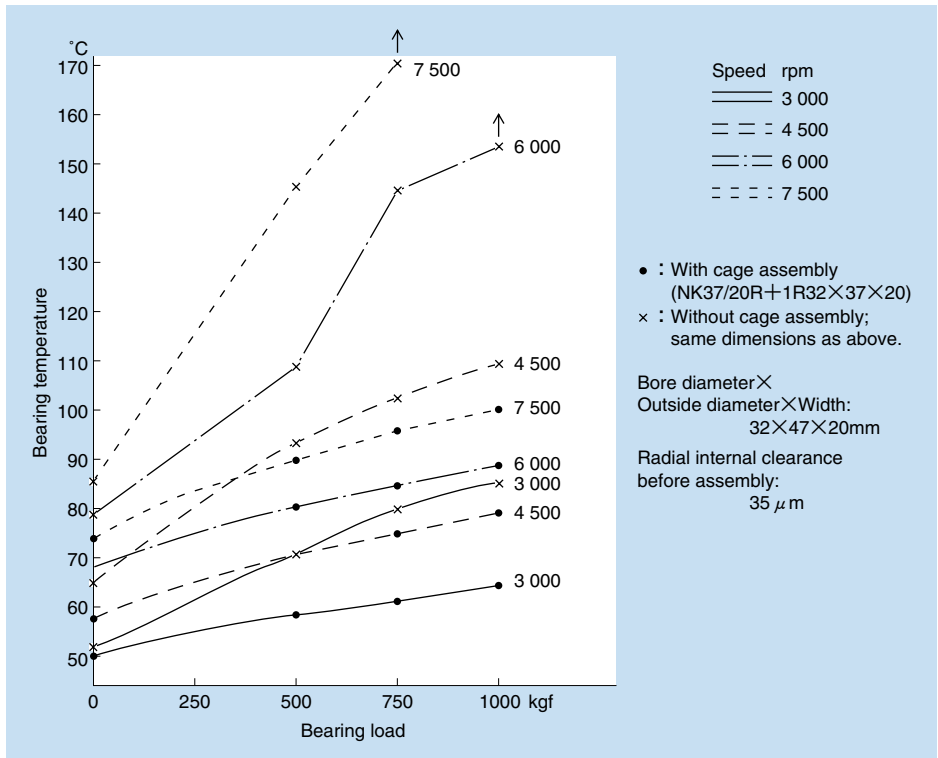

Fig. 1.7
**Fig. 1.7** shows the effect of changing speed and load on needle roller and cage assembly bearings and full-complement needle roller bearings having the same boundary dimensions for bore diameter (32 mm), outside diameter (47 mm), and width (20 mm).